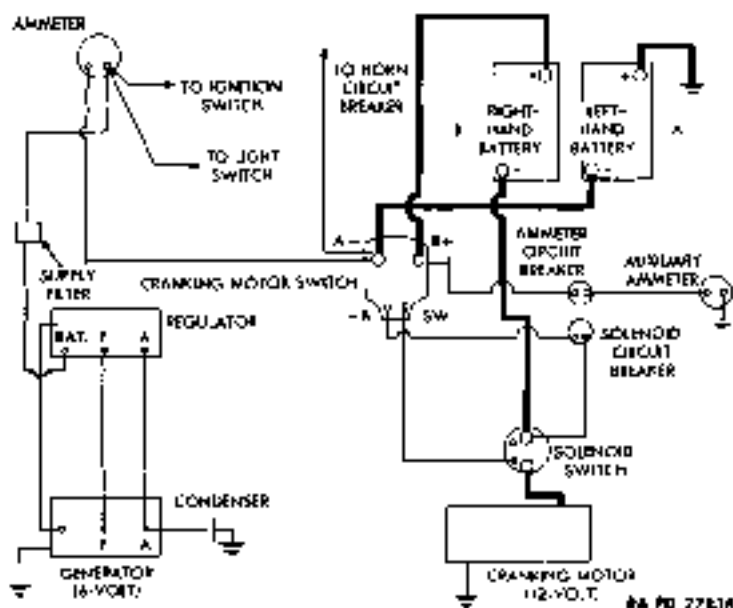

Figure 47 — Wiring Diagram of Starting and Generating Systems
### 86. DESCRIPTION (fig. 47).
(2) **DISCONNECT WIRES** (fig. 47). Disconnect the three wires and one hand strap from top of generator. Tag wires to facilitate installation.
(3) **CONNECT WIRES** (fig. 47). Connect red wire from harness and condenser lead on armature terminal. Connect yellow wire from harness on field terminal. Connect condenser, black wire from harness, and bond strap from frame on ground screw.